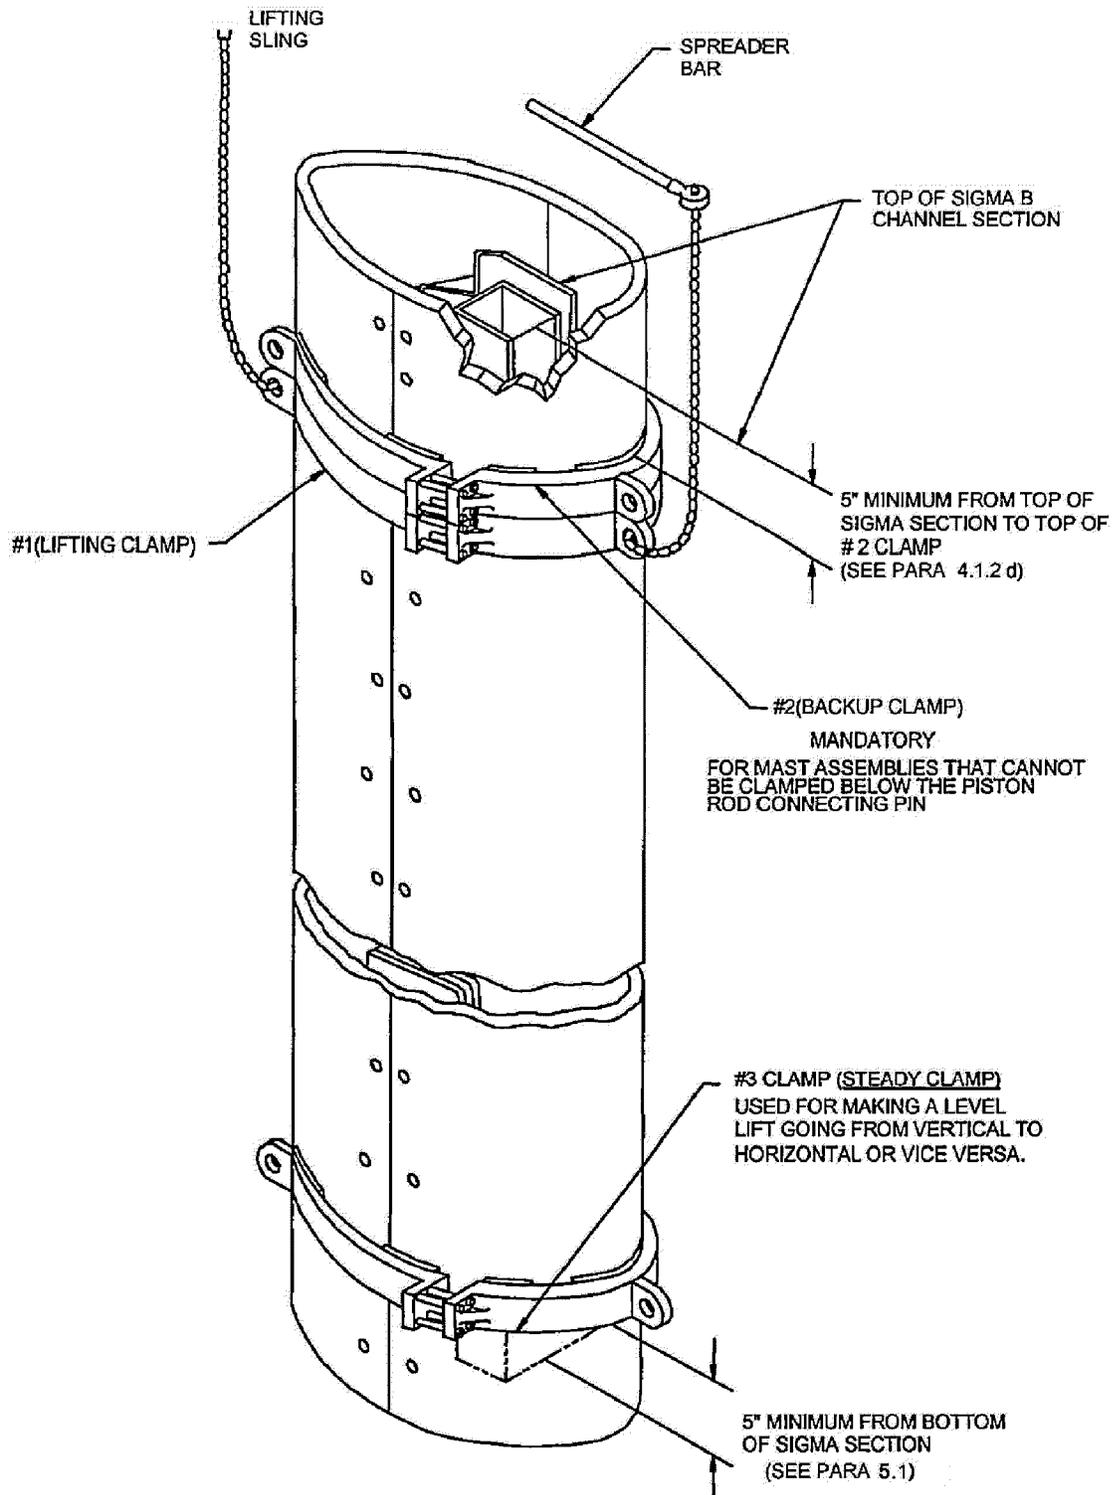
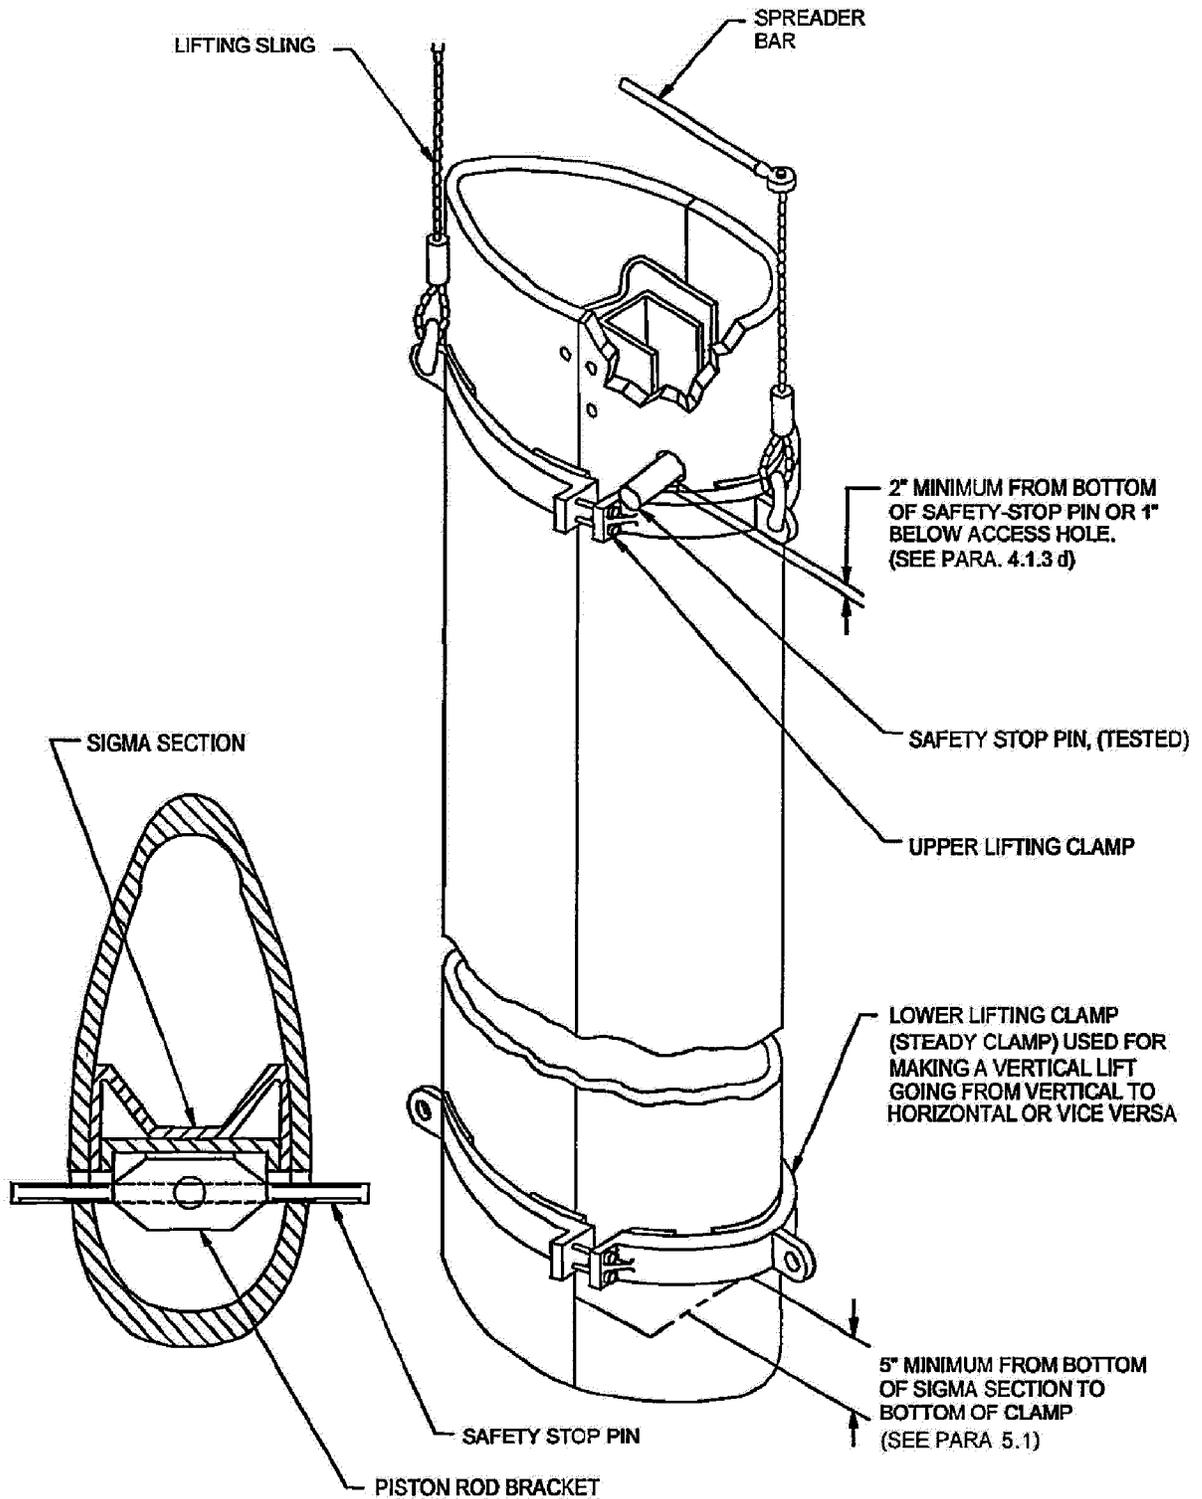

Figure 4-1 Method for Installing Backup Clamp and Lifting Clamp
Figure 4-2 Installing Safety Stop Pin and Lifting Clamp
4.1.2 INSTALLATION OF LIFTING CLAMP WITH BACKUP CLAMP. The method for the installation of the mast lifting clamp together with a backup clamp is given below and is illustrated in Figure 4-1.
In addition to a lifting clamp, a backup clamp (Figure 4-1) or a safety stop pin (Figure 4-2) is a mandatory requirement for personnel safety when lifting masts. Ensure that the mandatory requirements of Chapter 2 have been accomplished and that all other pertinent safety precautions of Chapter 1 are in effect.
- d. Position the lifting clamp on the mast so that the backup clamp will be at least five inches below the top of the sigma or channel section. See Figure 4-1.
4.1.3 INSTALLATION OF LIFTING CLAMP WITH SAFETY STOP PIN. This procedure applies to installation required on mast assemblies that allow the clamp installation below the piston rod connecting pin. The method for the installation of the lifting clamp with the mast safety stop pin is given below and is illustrated in Figure 4-2.
- d. Position the clamp 2 inches below the pin or 1 inch below the opening, See Figure 4-2.